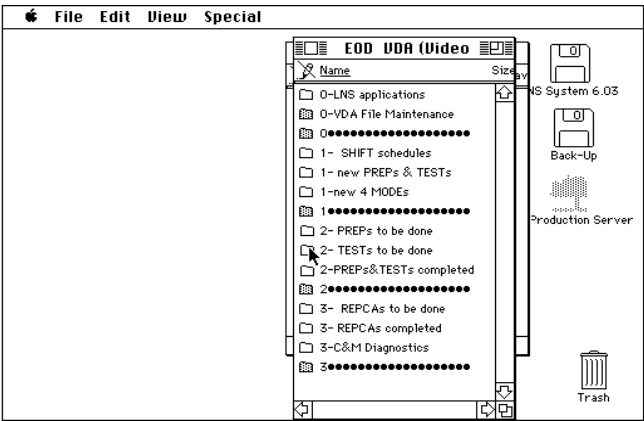

Figure 11
12.1 Position the mouse pointer on the “2-TESTs to be done” folder and double click to open it. See Figure 11.